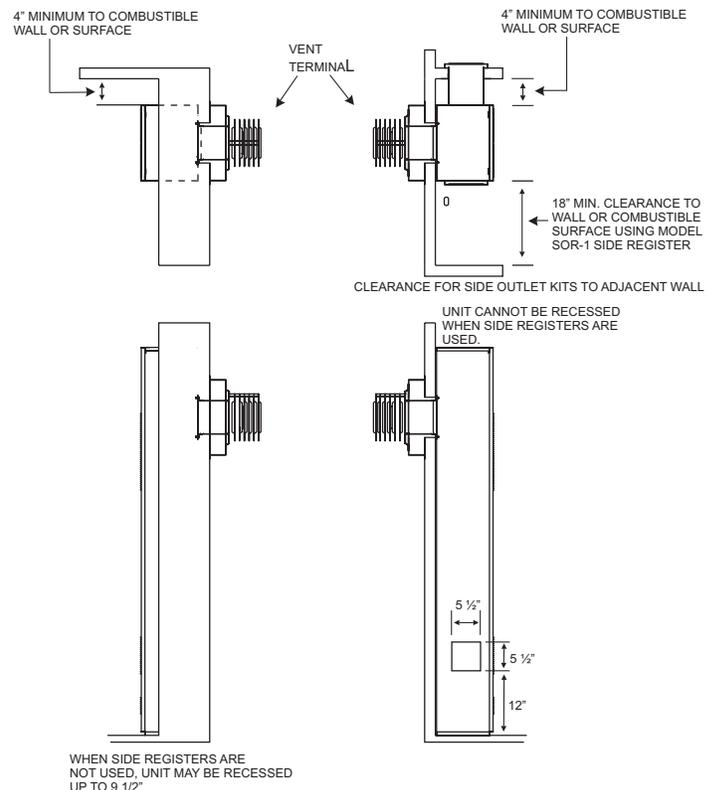

Figure 6
Side outlet register, SOR-1 may be installed on one or both sides of the furnace at the required clearances of 18" (457mm) to adjacent wall or combustible material as shown in Figure 6.
3. Remove the (2) #8 X 3/8" (9mm) screws that attach the inner shield cover plate to the inner shield.
6. Insert the 5" x 5" (127mm x 127mm) inner boot through the outer casing. Align the clearance holes on the inner boot with the crew holes on the inner shield. Attach inner boot to inner shield with (2) #8 x 3/8" (9mm) screws removed in Step 3.
8. Drill (2) 1/8" diameter holes in cabinet side and attach the register with (2) #10 x 1" (25mm) provided screws.
**Side outlet kit, SOK-1,** 10" (254mm) boot assembly with register, for warm air discharge into an adjoining room may be installed on either side of the furnace at the required clearance of 4" (102mm) to adjacent wall as shown in Figure 6.